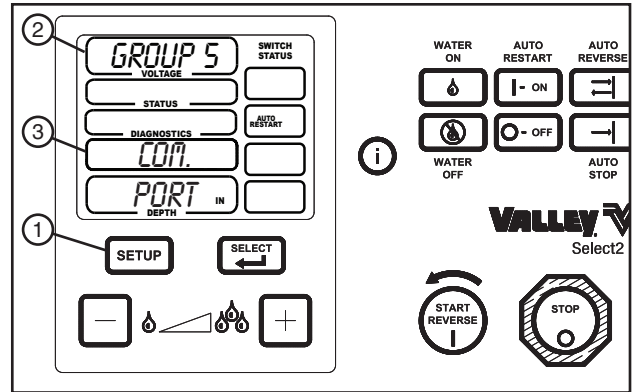

Figure 23-1
1. Press the SETUP button 5 times to access setup group 5, GROUP 5 should appear in the voltage display. See figure 23-1.
COM.PORT should be flashing in the information display. See figure 23-1.